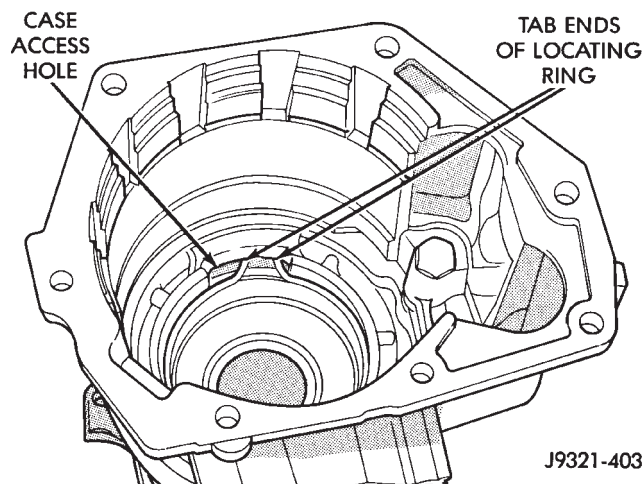

Fig. 302 Correct Rear Bearing Locating Ring Position
(6) Verify that tab ends of rear bearing locating ring extend into access hole in gear case (Fig. 302).